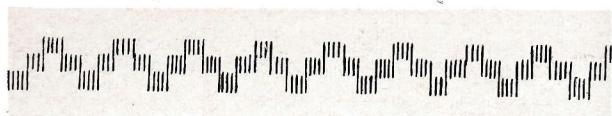

Fig. 41
**d) To make the design shown in Fig. 41**